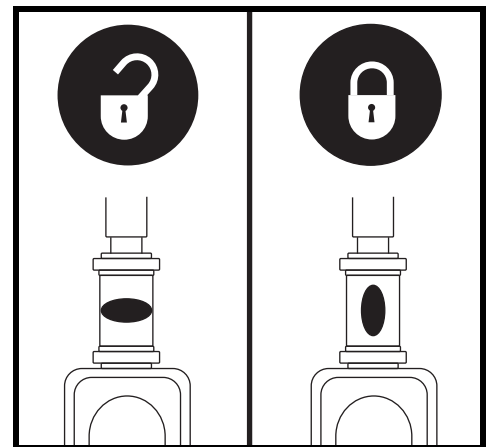

Figure 25. Tiller Lock Knob
2. Lock the tiller in the straight ahead position by pushing the tiller lock knob in and turning it clockwise 90°. See **figure 25**. The front wheel must face forward in order to lock the tiller.
1. Remove the key from the key switch and then lock the tiller in the straight ahead position by pushing the tiller lock knob in and turning it clockwise 90°. See **figure 25**. The front wheel must face forward in order to lock the tiller.
6. Unlock the tiller by turning the tiller lock knob 90° counterclockwise. See figure 25.